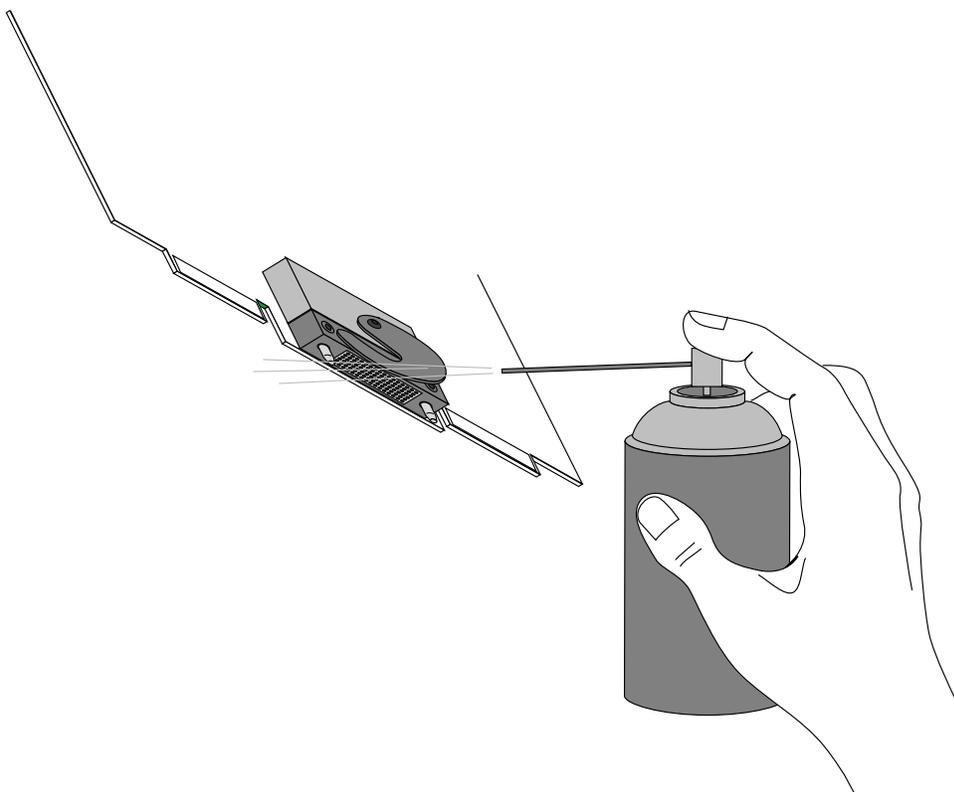

Figure A-2 Spraying the Compression Connector
5. Position the board or module at an angle to the can, so that the tip of the can's applicator is 1 to 2 inches away from the first (top) row of pads, as shown in Figure A-2. Do not allow the applicator to touch the pads. When you spray, the air hits each pad and flows downward.